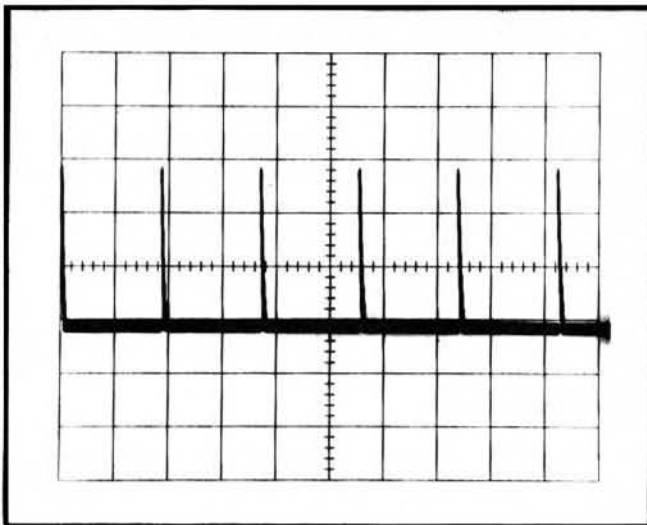

Fig. 5-5. Typical CRT display when checking VARIABLE control range.
c. **CHECK**—CRT display for two-division maximum spacing between markers (indicates adequate range for continuously variable sweep rate between the calibrated steps; see Fig. 5-5). Return the **VARIABLE TIME/DIV** to the **CAL IN** position.